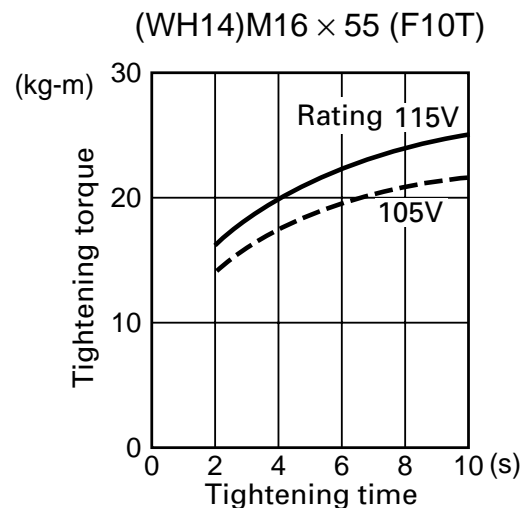

Fig. 5
1. Confirm the line voltage (Figs.5, 6, 7, 8 and 9)
The tightening torque decreases when the line voltage becomes low. (See Figs. 5, 6, 7, 8 and 9)
The tightening torque increases when the operating time increases. But the tightening torque does not increase above a certain value even if the tool is driven for a long time. (See Figs. 5, 6, 7, 8 and 9)
The tightening torque differs with the diameter of the bolt as shown in Figs. 5, 6, 7, 8 and 9. Generally a larger diameter bolt has a larger tightening torque.